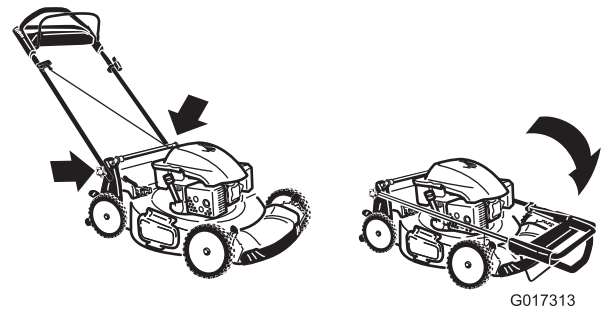

Figure 31
3. Fold the upper handle forward as shown in Figure 31.